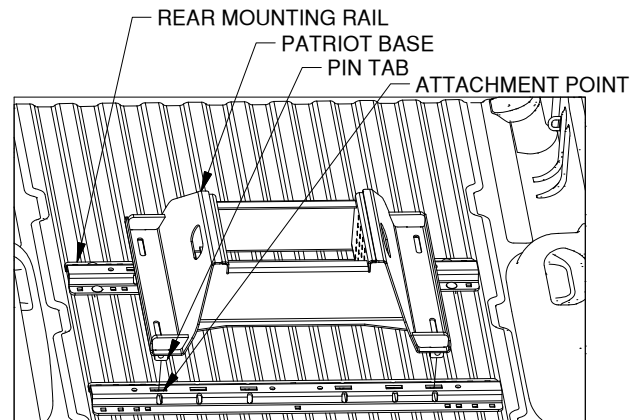

Figure D3: View into truckbed looking back at tailgate.
2. **Position the forward mounting rail.** For this step the base which will be used in the mounting rails is required. Place a mounting rail into the truck bed in front of the rear mounting rail. Place the base over the rail attachment points and carefully lower it until the pin tabs pass through the attachment points on the rear mounting rail. Attach the forward mounting rail to the forward mounting points on the base. The base should rest flat against the top of the rails, See Figure D3. With the base still attached ensure that the forward rail is centered in the truck bed.